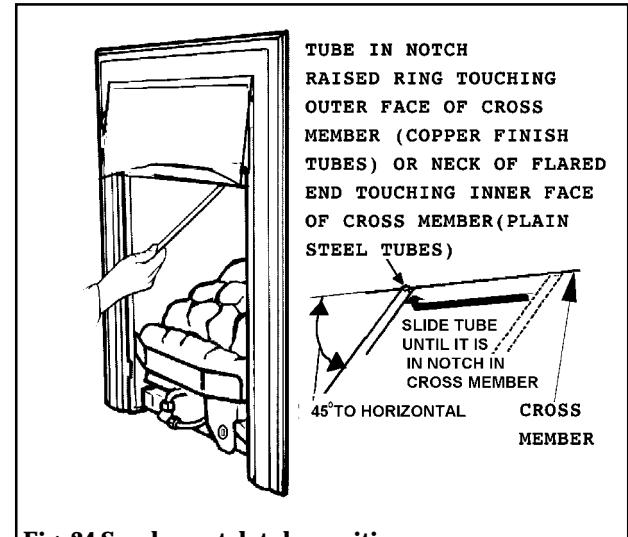

Fig. 24 Smoke match tube position
**Copper finish tubes:** Insert the tube so that the raised ring (approx. 25mm from the end) touches the outside surface of the edge of the cross member (figure 24).
**Plain steel tubes:** Insert the tube so that the neck of its flared end touches the inside surface of the edge of the cross member (figure 24).